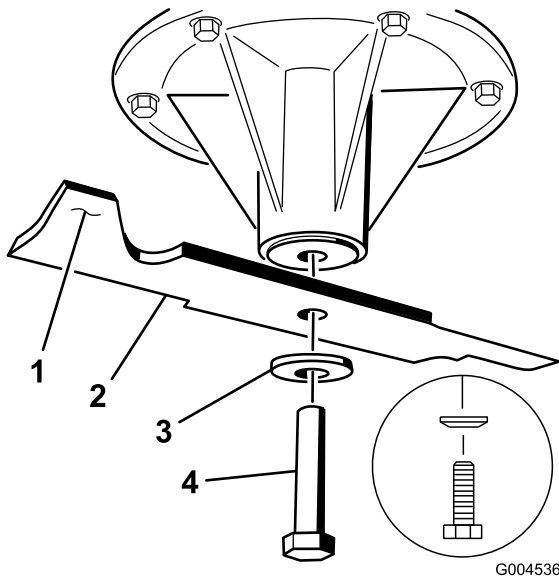

Figure 97
2. Remove the blade bolt, the curved washer, and the blade from the spindle shaft (Figure 97).
3. If the blade is not balanced, file some metal off the end of the sail area only (Figure 97).